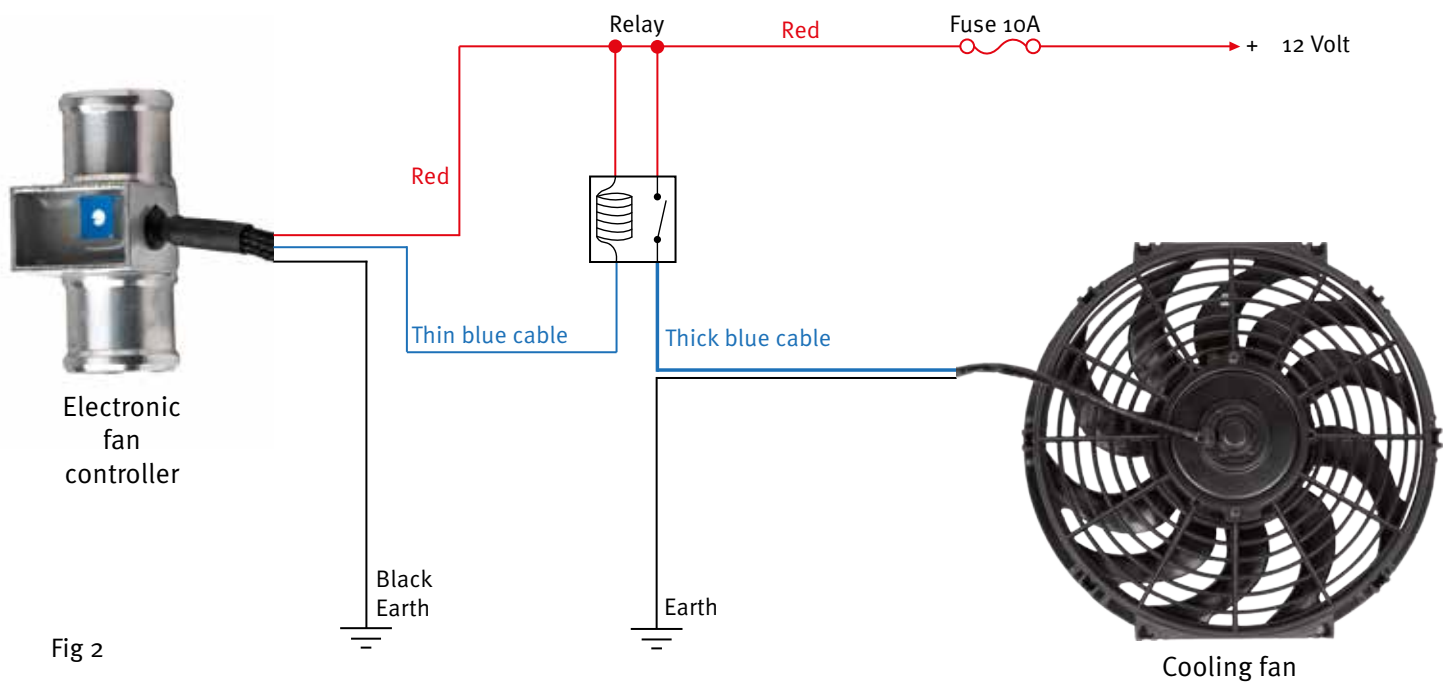

Fig 2
4. Electrical wiring connections (Fig 2.)